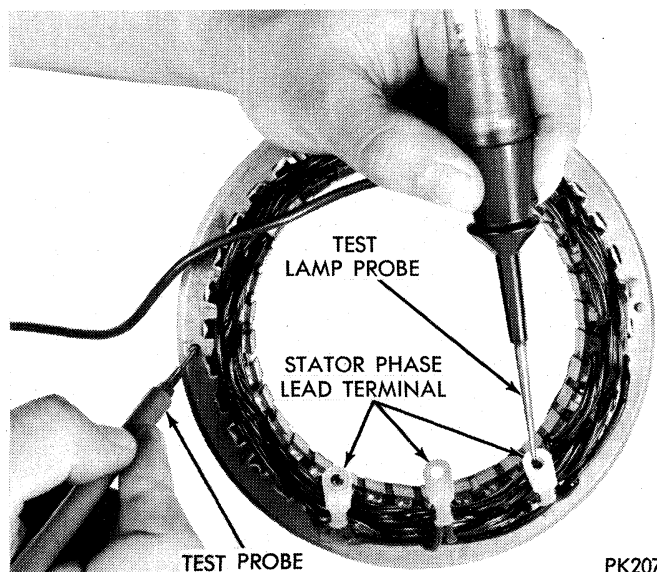

Fig. 51—Stator Test
- (1) Remove varnish from a spot on stator frame.
- (2) Press test probe firmly on unvarnished spot outer diameter of stator frame (Fig. 51).
- (3) Press test probe firmly to each of three phase (stator) lead terminals, one at a time. If lamp lights, stator lead is "grounded".
- (4) Install new stator if stator tested is "grounded".